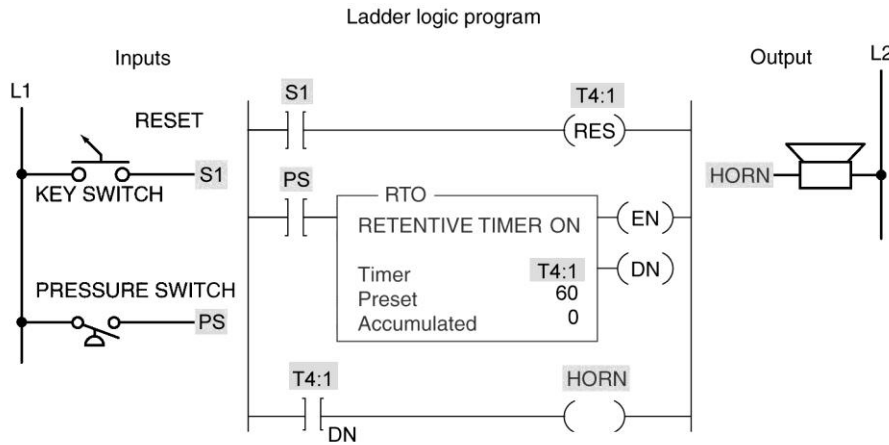

Figure 7-27
11) The program of Figure 7-27 is described in the text and uses a retentive on-delay as part of an alarm program. Prepare an I/O connection diagram and ladder logic program for the process. Use addresses that apply to your PLC. Enter the program into the PLC, and prove its operation.